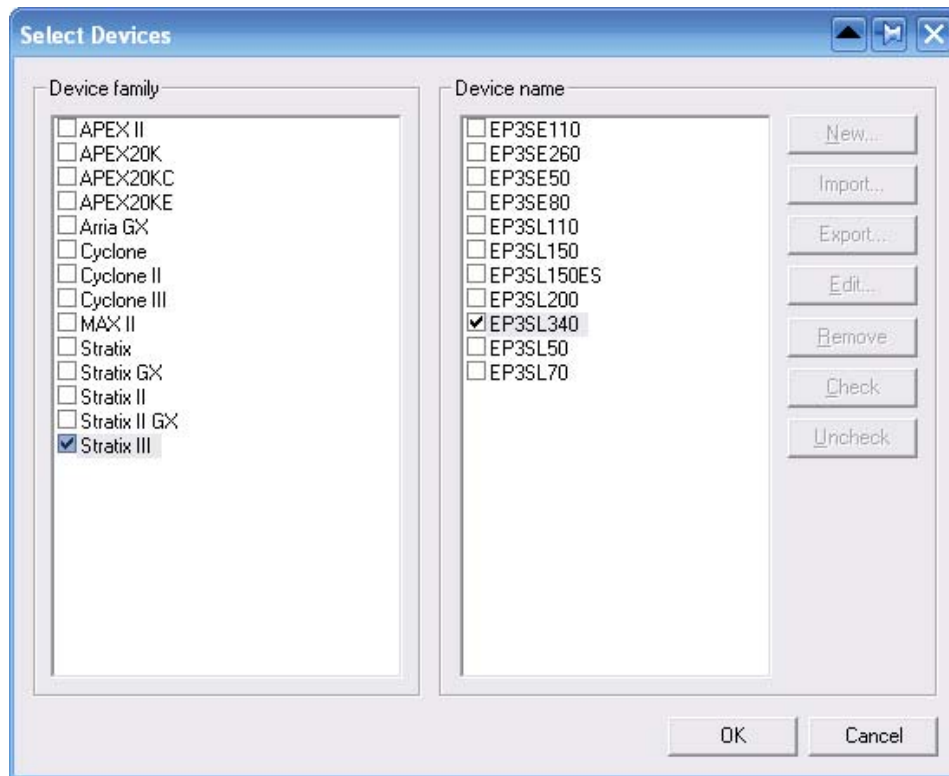

Figure C.3. Select Devices Page
11. Select the targeted FPGA that you are using to program the serial configuration device. See Figure C.3.